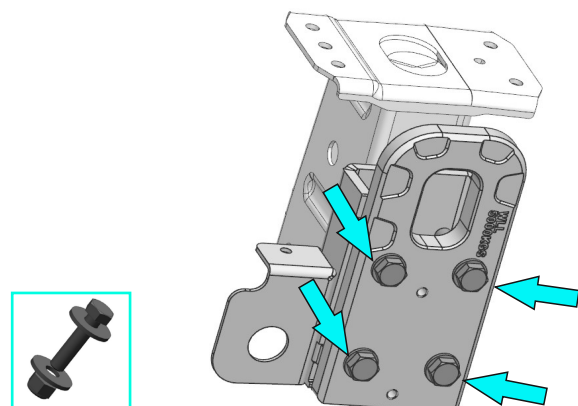

Fig.5
5. Install recovery point (item H) on recovery point bracket (item I) and fix using bolts M12x50, washers 12, nuts M12 (item C, F, G) (fig.5).